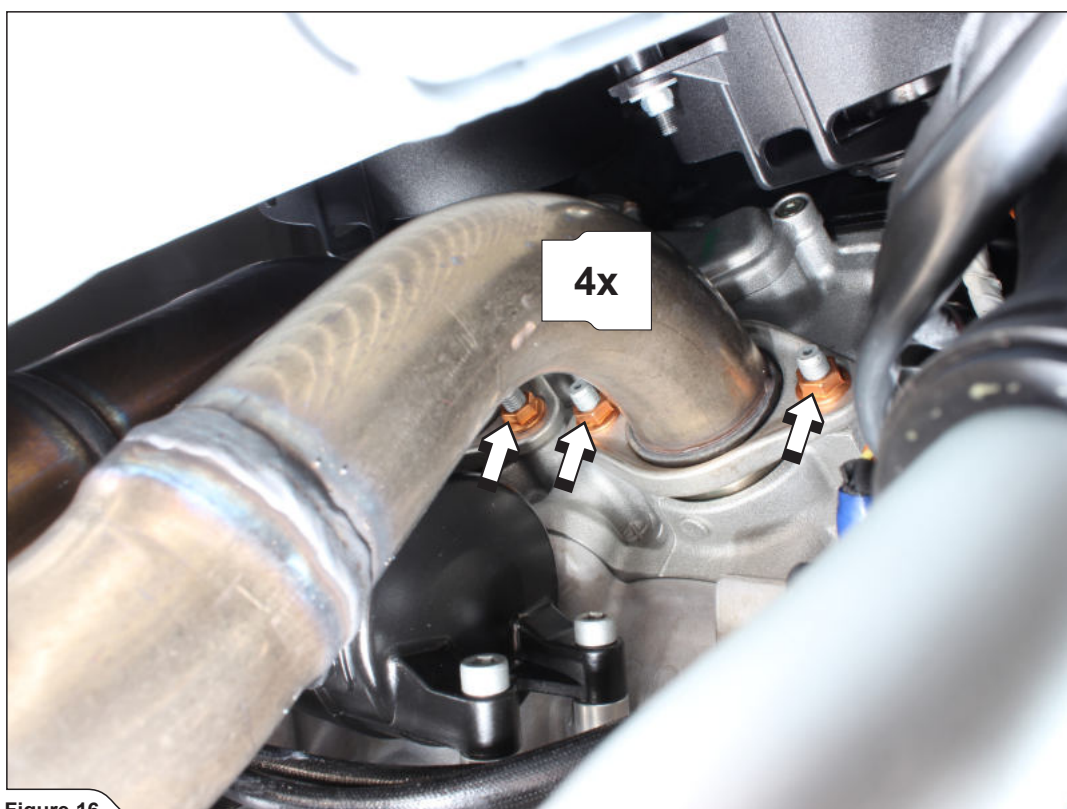

Figure 16
11. Unscrew the front headers' flange nuts and carefully remove the headers off the motorcycle (Figure 16).